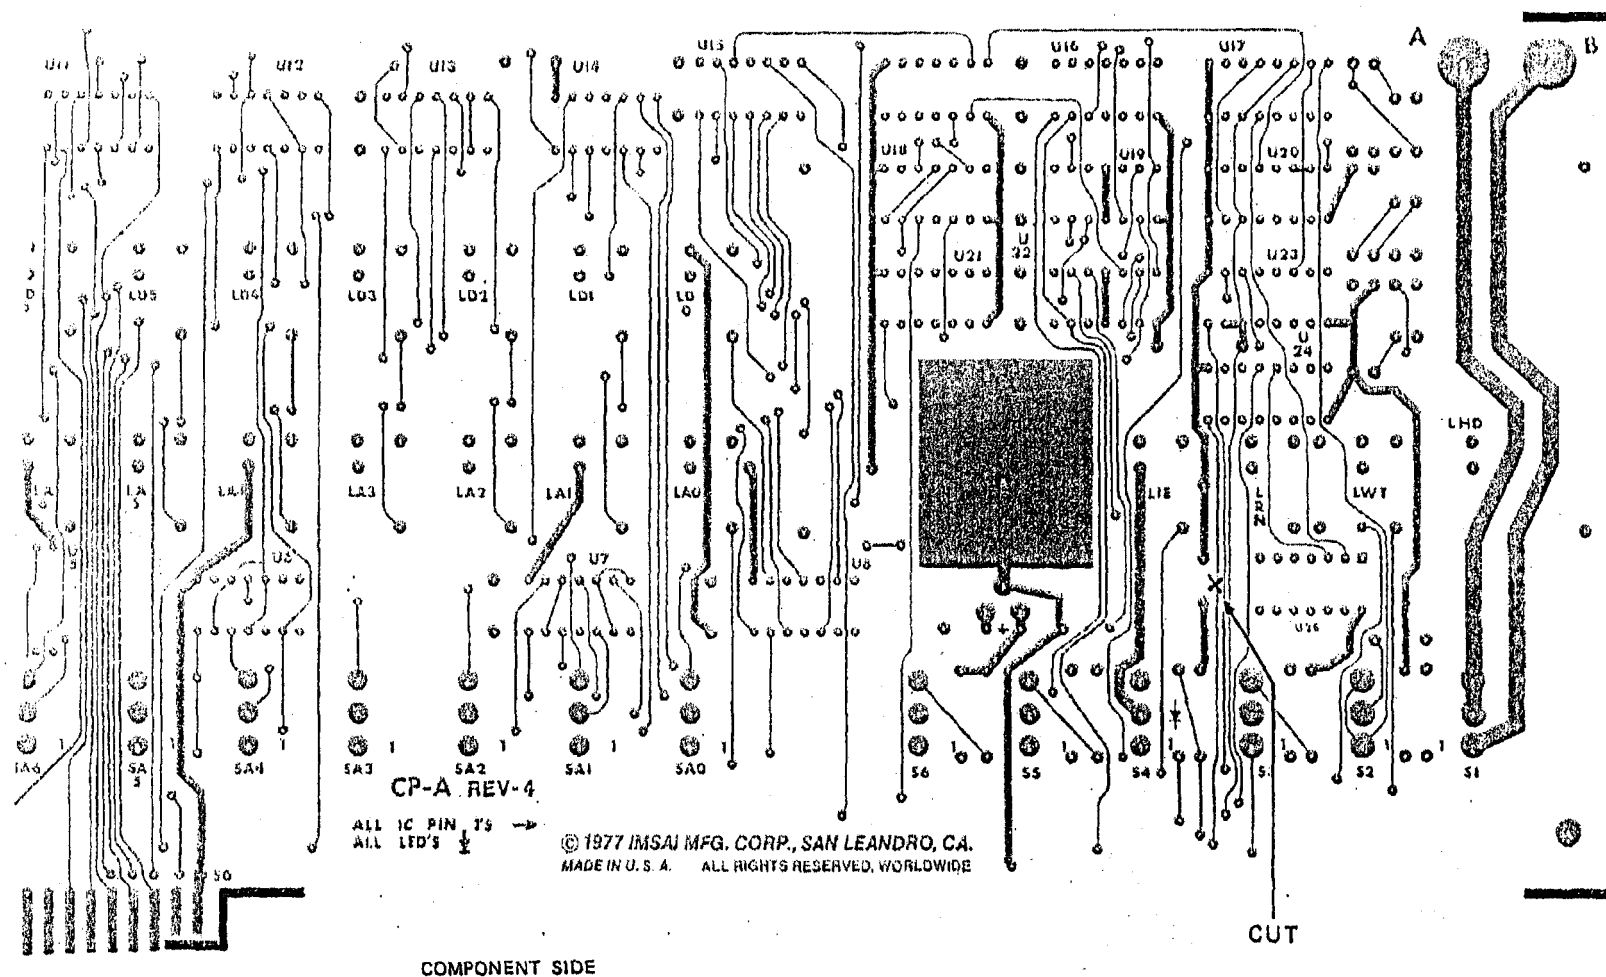

FIGURE 1
2. Refer to Fig 1 and make the following cut on the component side of the board: